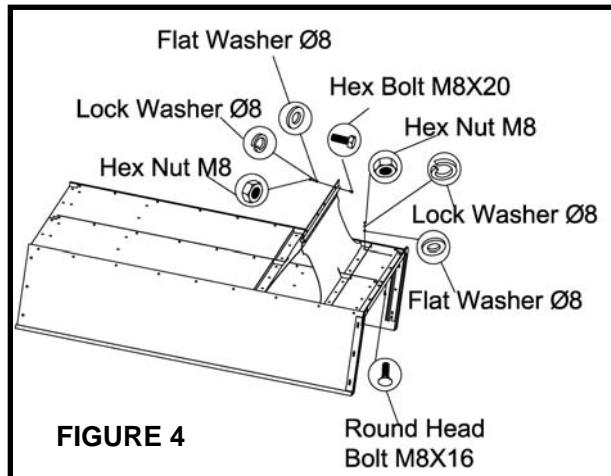

FIGURE 4
10. Lower the cart to rest upside down on its top flanges. See **Figure 4**.
11. Assembling the wheel support at the rear of the cart using twelve M8X16 round head bolts, Flat Washer Ø8, Lock Washer Ø8 and M8 hex nuts as shown in **Figure 4**. Bolt heads go on inside of cart. Tighten.